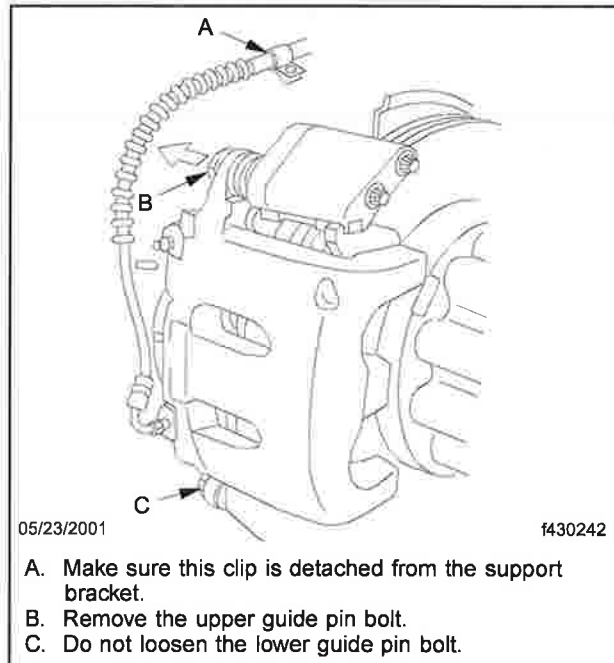

Fig. 3, Upper Guide Pin Mounting Bolt Removal
5. On front axles only, remove the brake line retaining clip from its support mounting. This will allow the brake line hose to hang free. See Fig. 3.
6. Remove the upper (top) guide pin bolt. See Fig. 3